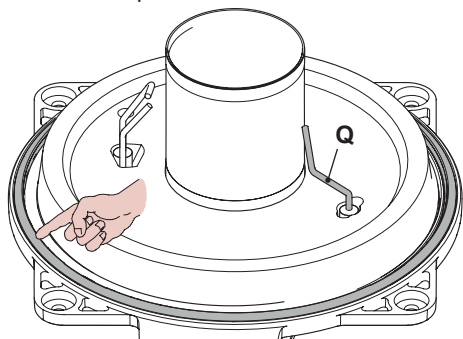
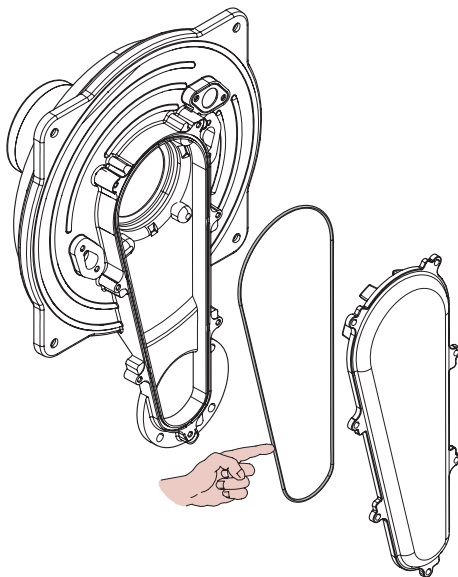

Fig. 10.9
Fig. 10.10
- The silicon seal on the front wall of the combustion chamber Fig. 10.9 and the seal on the air/gas pipe cover (Fig. 10.10) must be replaced if worn.
- The detection electrode **Q** in Fig. 10.9 also functions as a sensor for the correct drainage of the condensate. Should the mentioned electrode come into contact with the condensate water present within the combustion chamber it sends the boiler into safety lockout. Therefore, should the insulation be wet or deteriorated, provide for the substitution of the same.
Caution: After any periodical servicing or disturbance the combustion chamber silicon seal Fig. 10.9 and the Air-gas duct gasket (Fig. 10.10) must be fully inspected and replaced at the discretion of the service engineer.